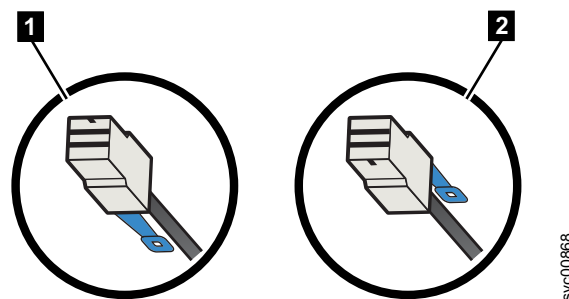

Figure 131. SAS cable connector orientation
- For 2145-24F or 2145-12F expansion enclosures, the blue pull tab must be below the cable (**1** in Figure 131).
- For 2145-SV1 or 2145-DH8 nodes and 2145-92F enclosures, the blue pull tab must be above the connector (**2** in Figure 131).